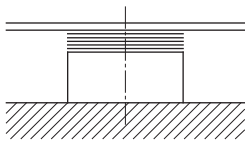
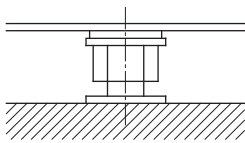

Fig. 6: Shims on the base surface
Fig. 7: Levelling screws on the base surface
- Place shims (approx. 20–25 mm thick) on every screw hole on the base surface (see Fig. 6). Alternatively, levelling screws can also be used (see Fig. 7).